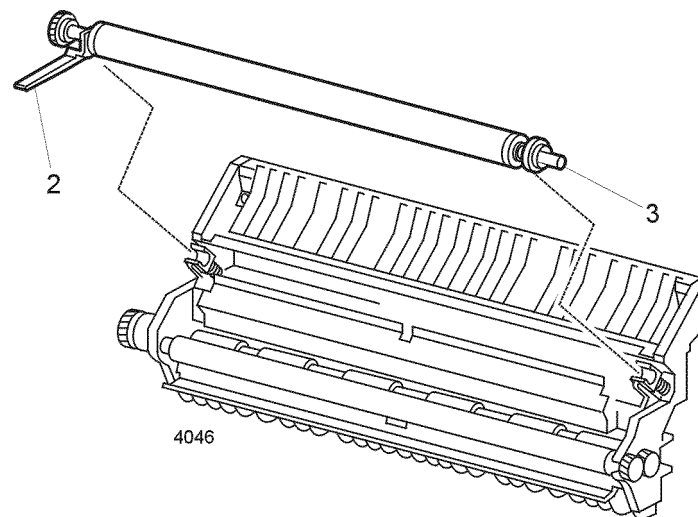

Figure 1 BTR Assembly
3. Use your finger to lift the right end of the BTR Assembly (Figure 1).